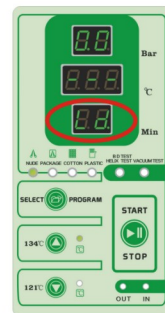

Fig.7.1-4
1、 only when the operation display window show stationary “Ld” ,befor press “START/STOP” button can start working. Fig.7.1-4.